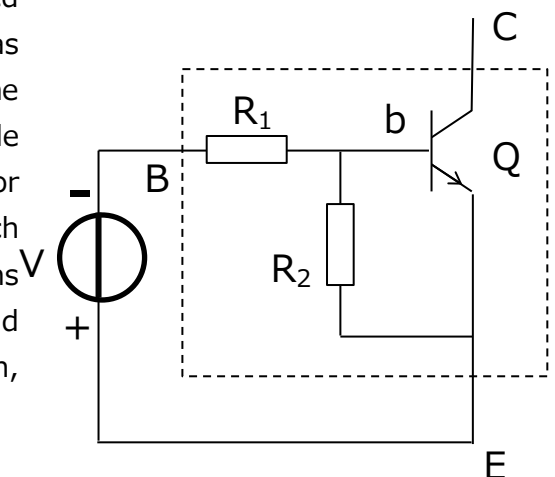

Figure 3-3 Emitter-base voltage (NPN BRT)
Voltage is applied with the collector terminal (C) open as shown in Figure 3-3 so that the pn junction between the emitter (E) and base (b) is reverse-biased.